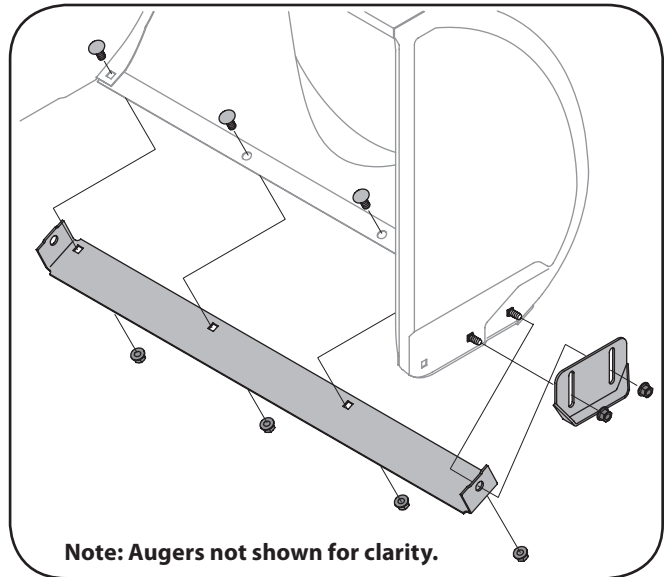

Figure 6-1
1. Remove the carriage bolts and nuts securing each skid shoe to the auger housing, See Fig. 6-1.
3. Remove both skid shoes and hardware including carriage bolts and nuts which attach shave plate to the snow thrower housing. For location of shave plate, see Fig. 6-1.